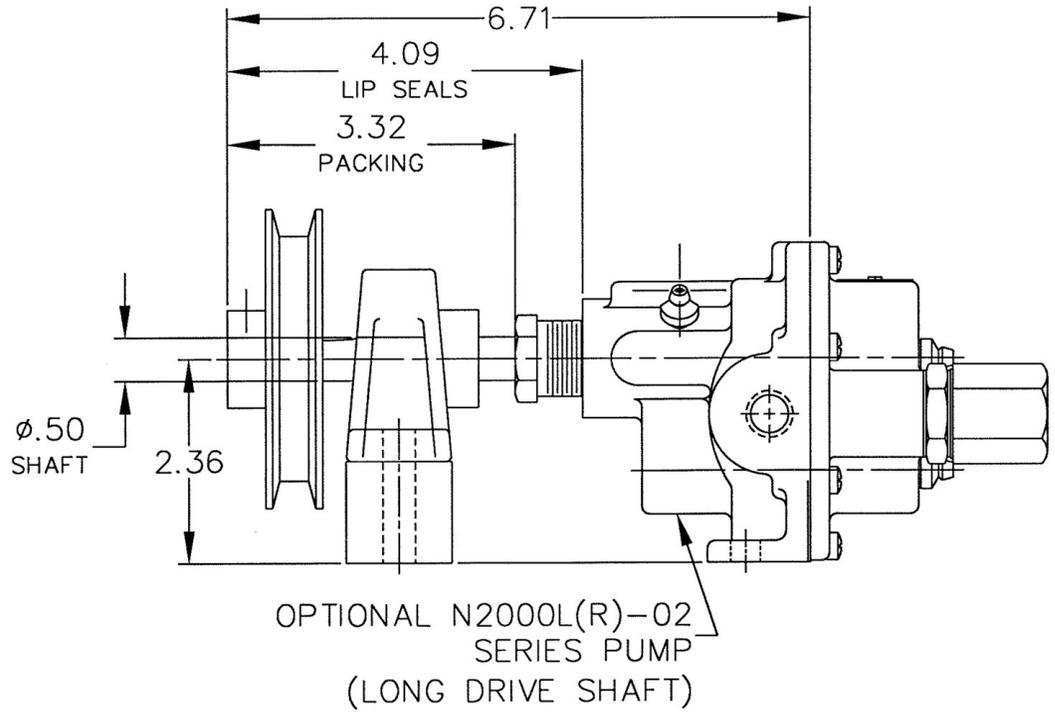

FIGURE 1
- When space is an issue, use an optional "long shafted" pump and add a properly shimmed pillow block bearing (see figure 1).